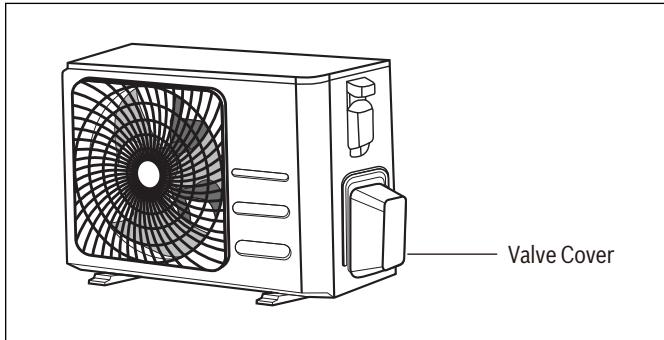

Figure 34
- Unscrew and remove the cover on the side of the outdoor unit. See Figure 34.